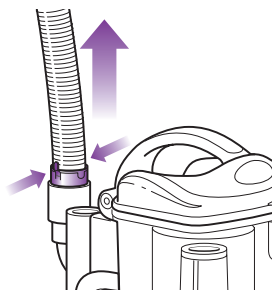

Fig. 28
- Detach the stretch hose from the back of the portable *Lift-Away™* canister by squeezing the tabs together and pulling up. (**Fig. 28**) Straighten out the hose and look inside for blockages.